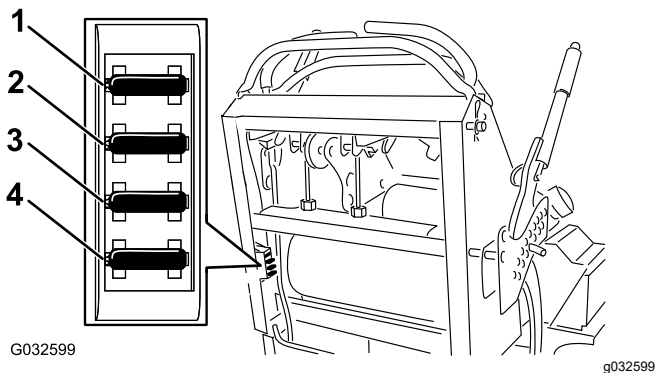

Figure 52
4. Pull out the fuse and replace it (Figure 52).